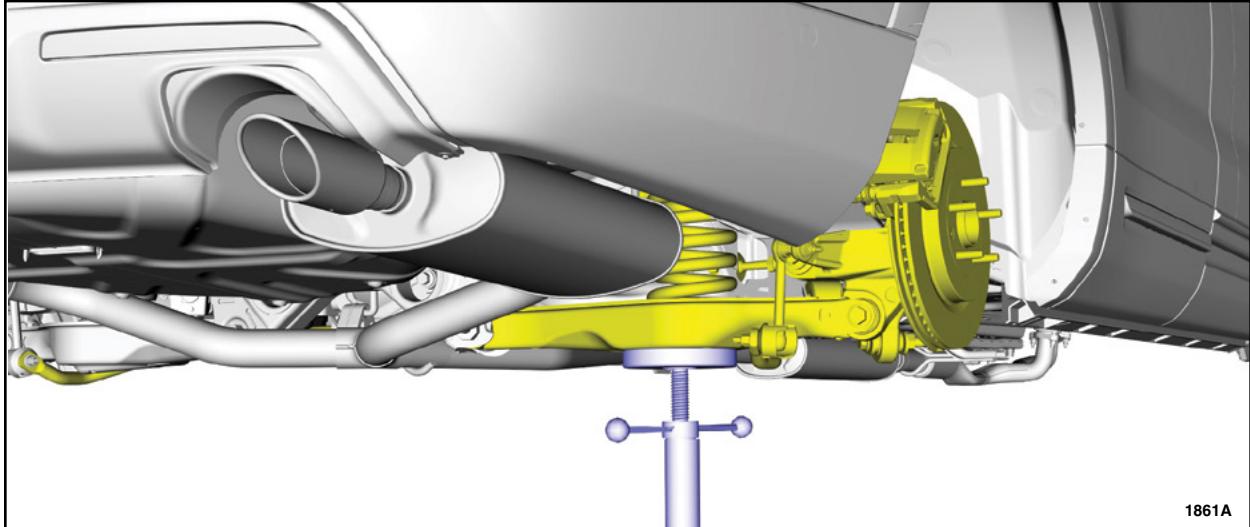

FIGURE 2
5. Using a jack stand, support the rear suspension to ride height. See Figure 2.